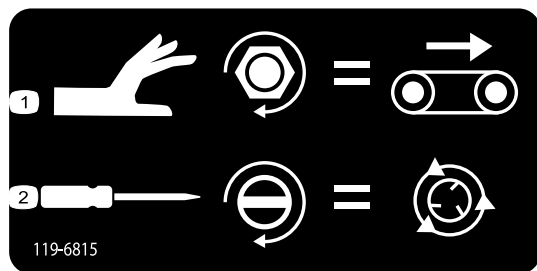

Figure 44
- To adjust the floor speed (Figure 44), turn the knob clockwise. Maximum floor speed is used in the Color-Coded Operating System so this adjustment can be made while no hydraulic flow is present. This is most relevant when you have a hopper full of sand.
- To adjust the spinner speed (Figure 44), use a flat-head screwdriver to increase by turning clockwise or decrease by turning counter clockwise.